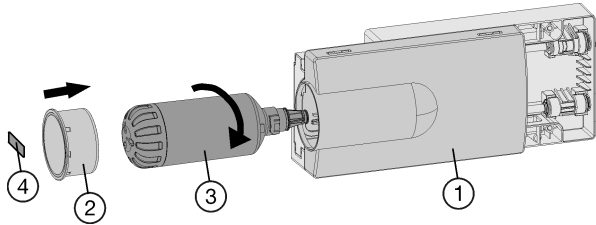

Fig. 8
- ▶ Insert the water filter Fig. 8 (3) and turn it approximately 100° clockwise until it locks into position.
- ▶ Slide the tray Fig. 8 (1) in.
- ▶ Place the cover Fig. 8 (2) on the filter.
- ▶ Write the date of the next filter replacement on the supplied adhesive label Fig. 8 (4) and affix it to the module.